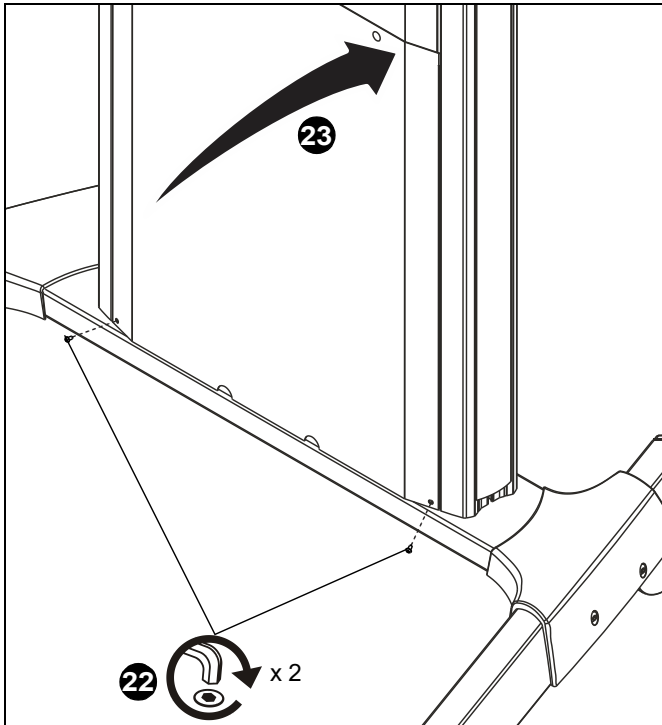

Figure 12
23. Reinstall front cover by using two screws removed in Step 19. (See Figure 12)